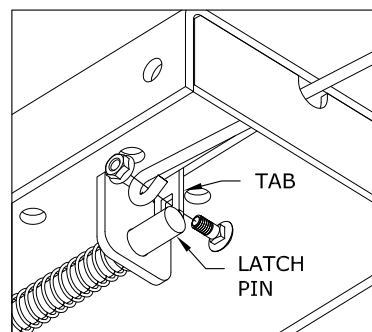

FIGURE F2: Handle Installation
2. Secure the handle to the pin with the  $\frac{5}{16}$ " X  $\frac{3}{4}$ " carriage bolt and  $\frac{5}{16}$ " locking flange, see figure F2. Note: The included  $\frac{5}{16}$ " cap screw can replace the carriage bolt if wrench access on the "cab side" of the handle is limited. Tighten the nut until it is secure. Do not over-tighten and deform the handle eyelet.